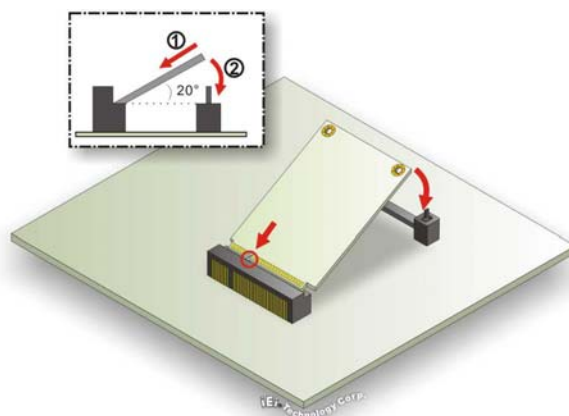

Figure 3-10: PCIe Mini Card Installation
Step 6: Insert into the socket at an angle. Line up the notch on the card with the notch on the connector. Slide the PCIe Mini card into the socket at an angle of about 20° (**Figure 3-10**).
Step 7: Push down until the card clips into place. Push the other end of the card down until it clips into place on the plastic connector (**Figure 3-10**).